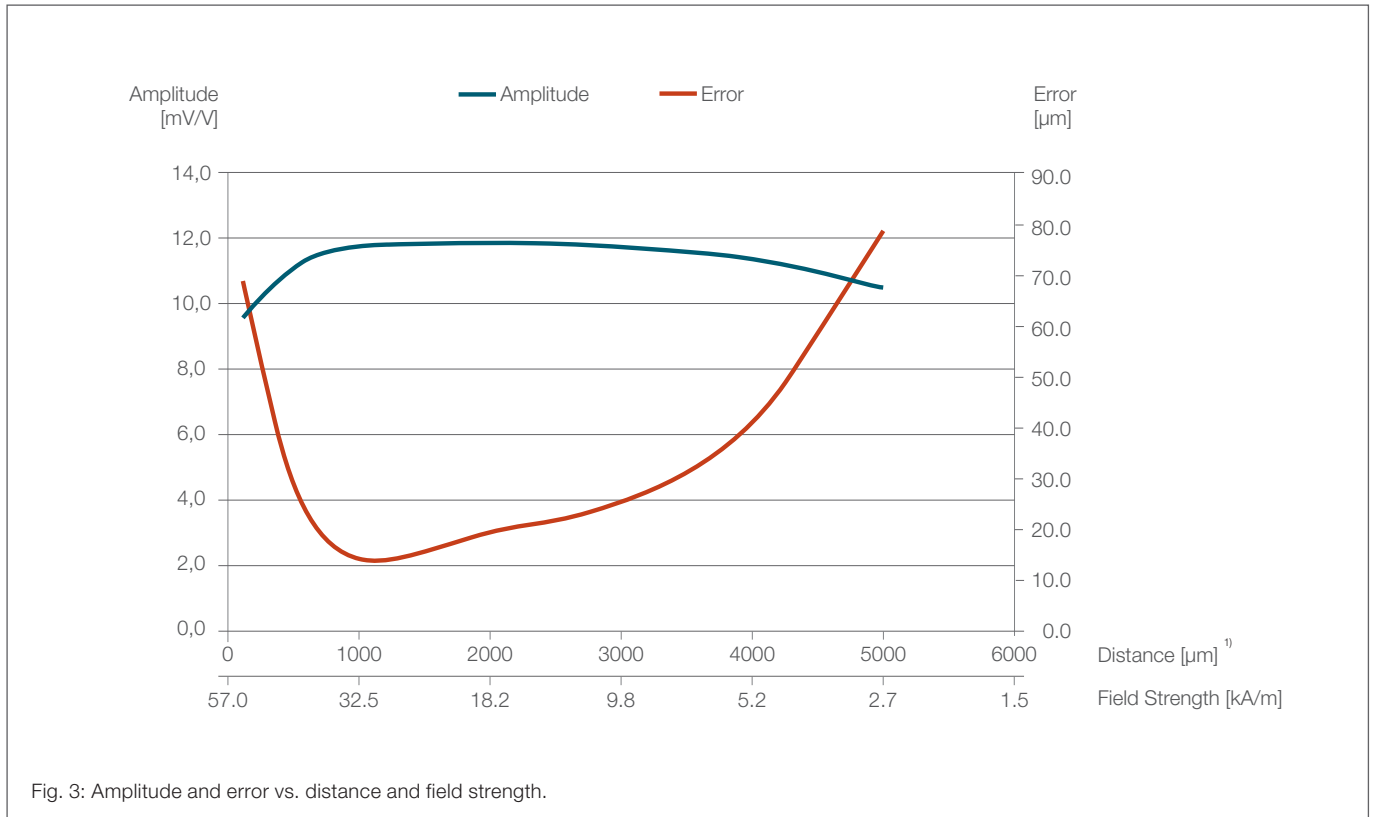

Fig. 3: Amplitude and error vs. distance and field strength.
12) See Fig. 3 for detailed information.